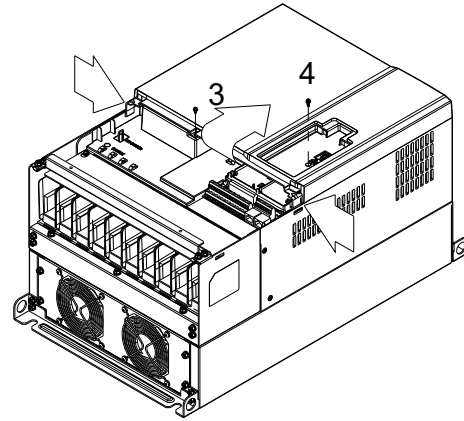

Figure 2
- (Figure 2) Loosen screw 3 & 4; press the tab on the right and the left to remove the cover. Screw 3, 4 Torque: 6–8 kg-cm / [5.2–6.9 lb-in.] / [0.6–0.8 Nm]